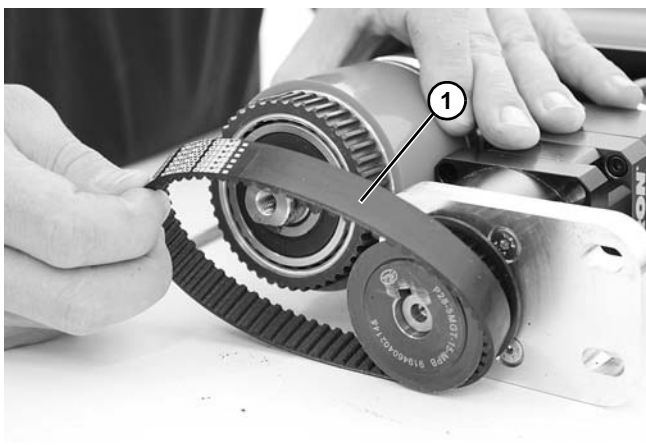

Figure 149
9. Remove timing belt (**Figure 149, item 1**).